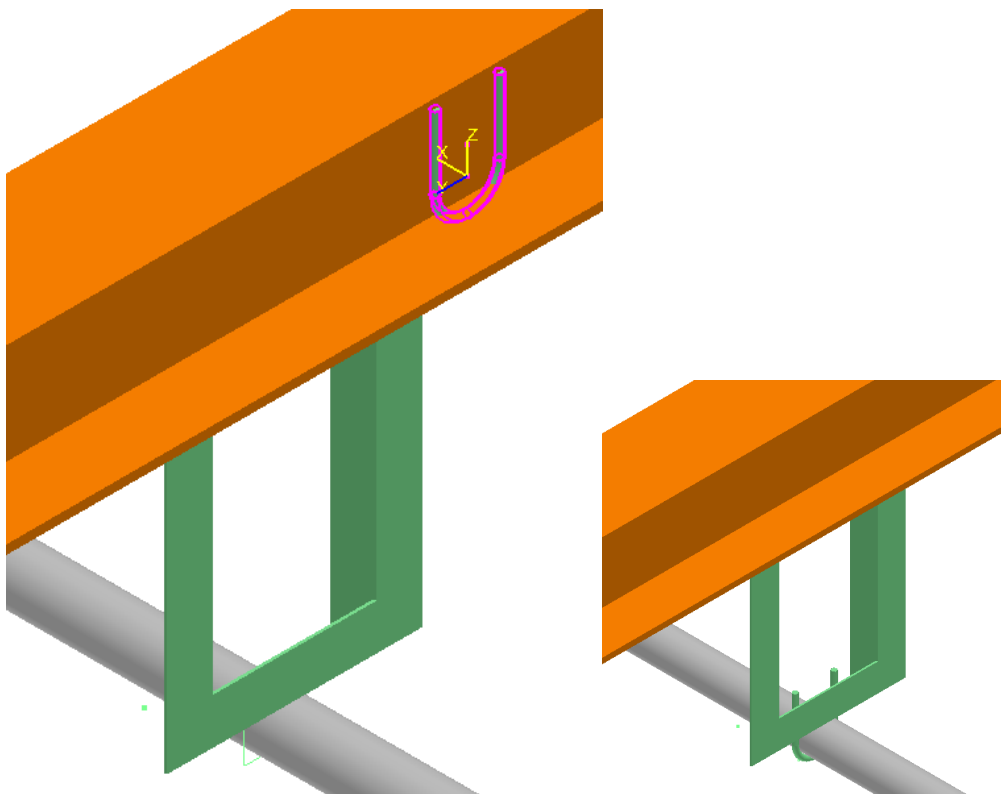

Figure 9: Designed Support Rotation Feature
- Position and orient the selected part, **Anvil_FIG137_12**, as shown in Figure 9. You can do this very easily using the up & down arrows to select the axis of orientation you would like the U-Bolt to rotate around (blue axis) and the left & right arrows to rotate the U-Bolt. After rotating the U-Bolt correctly with respect to the pipe and support, then you can move it to place it within the middle of the design green support box.